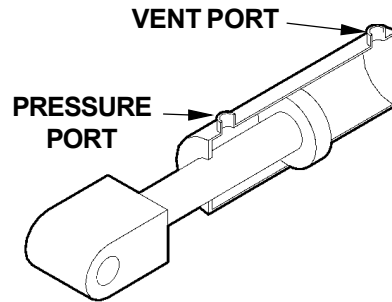

FIG. 38-1
5. Check the Hydraulic Cylinder. With the Platform on the ground, remove the Breather Plug or Vent Line from the Vent Port of the Cylinder (**FIG. 38-1**). Raise the Platform even with the bed. Allow pump motor to run two seconds more while you watch for hydraulic fluid at the Vent Port. A few drops of hydraulic fluid escaping the Vent Port is normal; however, if it streams from the Vent Port, Piston Seals are worn. Replace Seals.